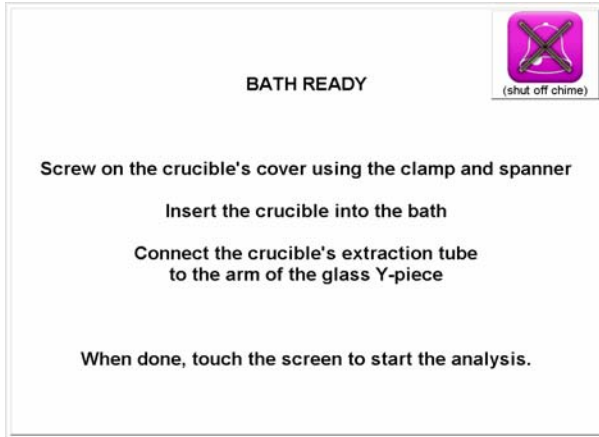

Figure 10: Crucible / Bath Ready Prompt
10. Once the bath has reached the set temperature an audible alarm will sound and the Crucible Prompt will appear on the screen. See Figure 10: